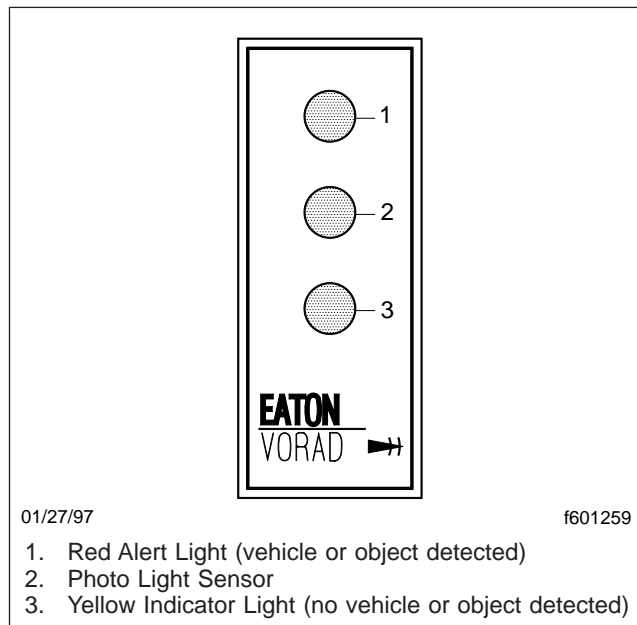

Fig. 3.27, Side Sensor Display, Optional
1. The yellow indicator light illuminates continuously when no vehicle is detected by the side sensor(s). See Fig. 3.27.